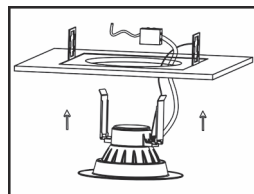

Fig. 6
- 7.) Once the luminaire is placed within the frame, release the housing clips and continue pushing the luminaire into the frame until securely fixed and flush with ceiling (**Figure 6**.) Completed retrofit shown in **Figure 7**.